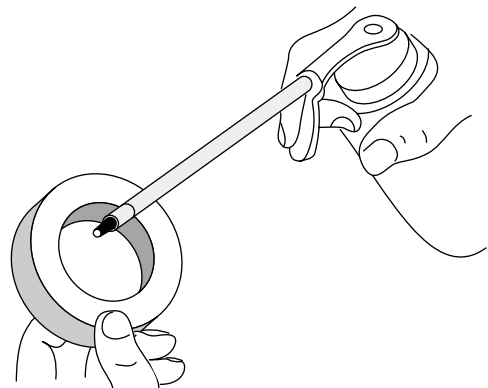

Fig. 34
4. Apply enough clean SAE 30 oil to lightly coat the filter (Fig. 34).